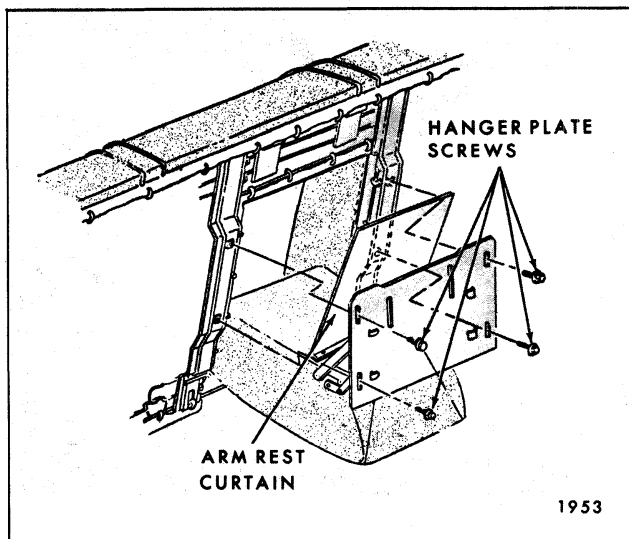

Fig. 9-71-Rear Seat Back Armrest and Hanger Plate
1. Lower rear seat back armrest. On all styles except 6CB69 carefully pull upper portion of armrest curtain out of slot in hanger plate and fold curtain forward. On 6CB69 styles, fold armrest flipper forward (see Fig. 9-71).
2. Remove four screws securing armrest to hanger plate linkage (see Fig. 9-71), then remove armrest from seat back.
2. On back side of rear seat back, remove four screws securing armrest hanger plate to seat back supports; then carefully remove armrest and hanger plate assembly from seat back (Fig. 9-71).